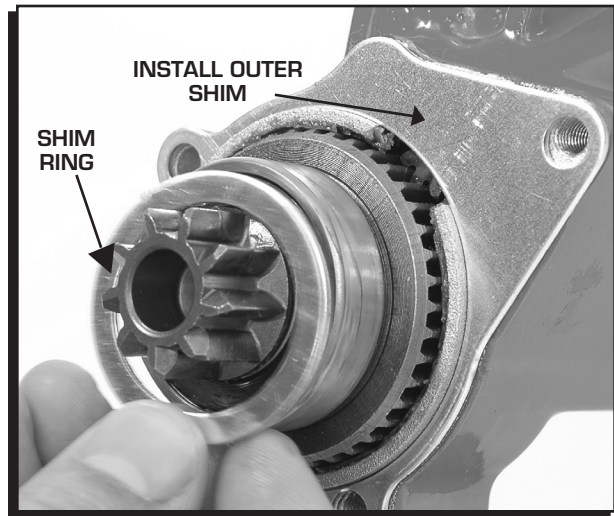

Figure 3 Installing the Pinion Shim Spacers.
- **If there is not enough clearance**, you will need to install the supplied shim kit by removing the mounting block (Figure 3). Place the small shim ring in the bearing bore and install the outer shim on the support housing. Reinstall the mounting block. This will move the pinion gear into the starter approximately $0.060"$.